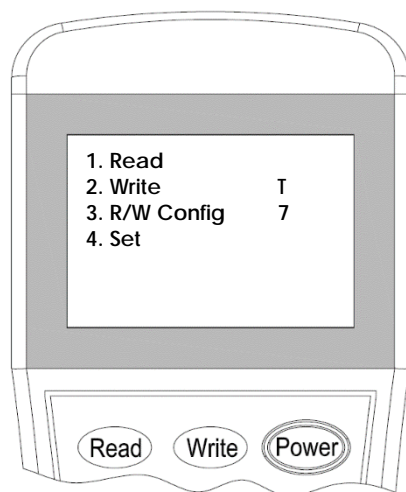

Figure 13
2. Switch-on the programmer, then press button **"3"** to enter to **Configuration mode** (Figure 13).